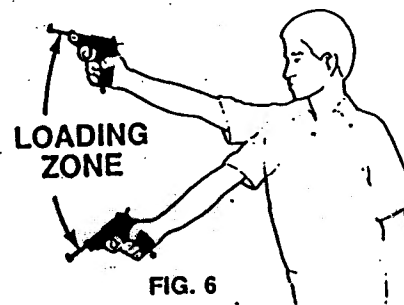
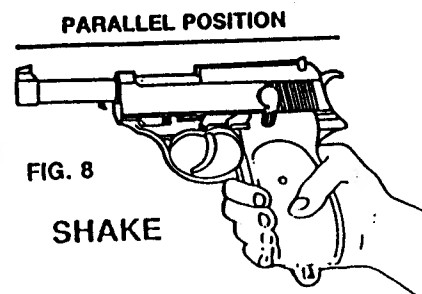

FIG. 6
FIG. 8
- Your pistol has a gravity BB feed system. In order to allow BBs to move into the fire position, the pistol must be held within the loading zone shown in Fig. 6. Outside this zone you may not be able to fire a BB unless you have previously brought the pistol through the load zone. If you fire the gun and a BB doesn't come out of the barrel, don't assume the gun is empty. Hold the gun in a parallel position, (Fig. 8) shake it and resume firing at your target.
- Return the pistol to a parallel firing position as shown in (Fig. 8), shake the pistol, point in a SAFE DIRECTION, take the pistol off safe, and fire.